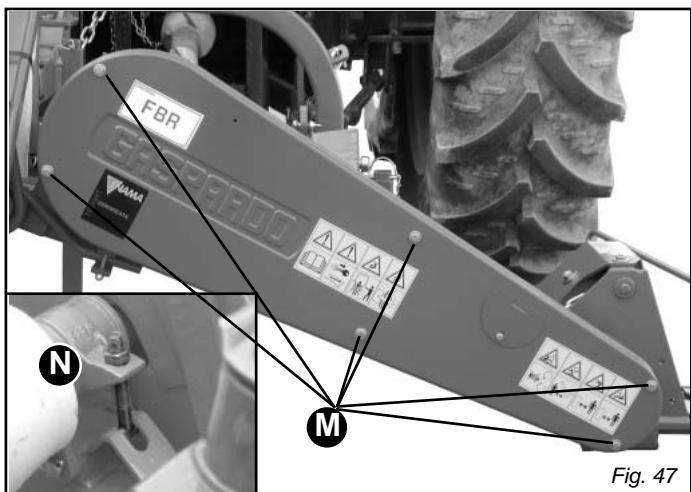

Fig. 47
- Unscrew the screws (M, Fig. 47) and remove the protective casing.
- Loosen the belt tensioner completely (N, Fig. 47).
- Put the protective casing back in position and fix it in place with the screws (M, Fig. 47).